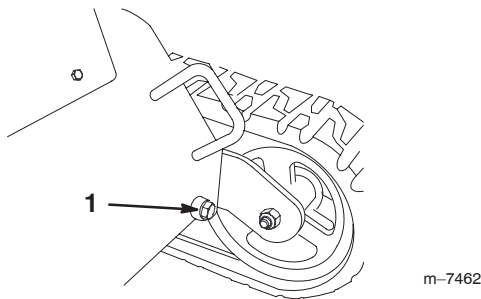

Figure 66
6. Place a large drain pan (capable of holding 15 US gallons) under the drain plug on the front of the traction unit (Fig. 66).
7. Remove the drain plug and allow the oil to drain into the pan (Fig. 66).